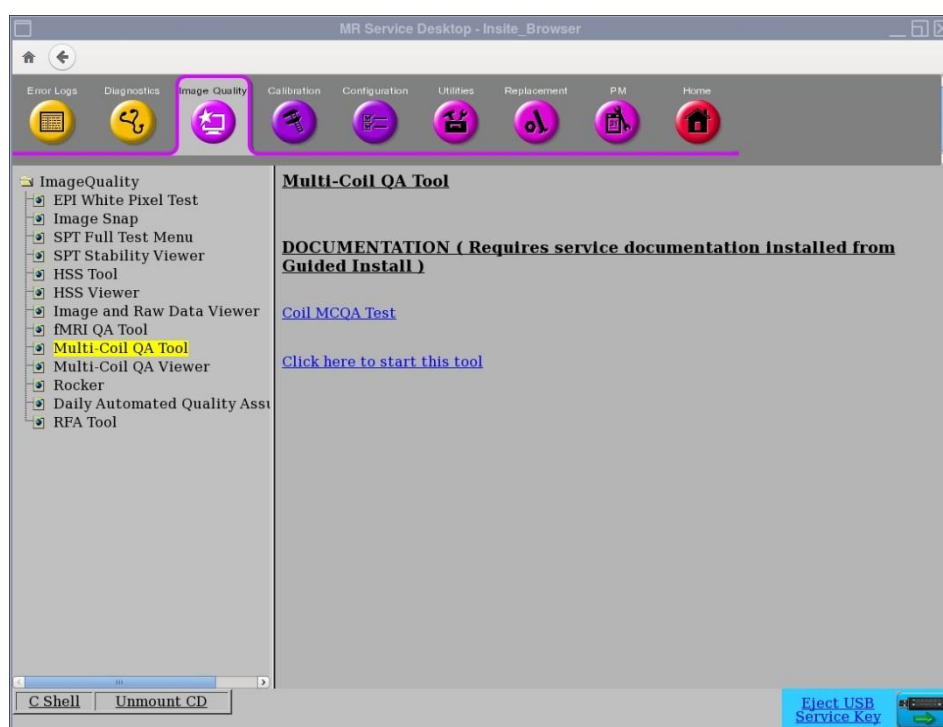

Figure 1
1. From Common Service Desktop (CSD), go to Service Browser and select [Image Quality] “Multi-Coil QA Tool” and then “Click here to start this tool” as shown in Figure 1.